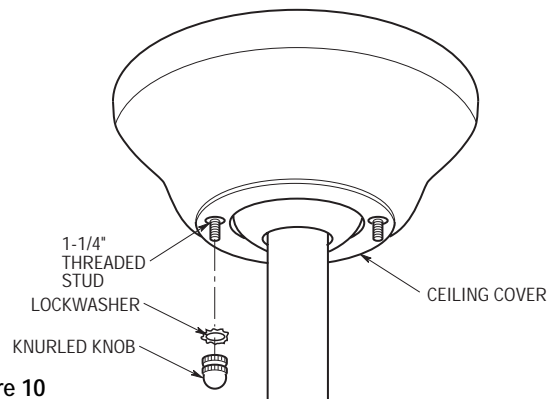

Figure 10
3. Screw the two 1-1/4" threaded studs (supplied) into the tapped holes in the hanger bracket (Figure 10).
4. Lift the ceiling cover up to the threaded studs and until studs protrude through the holes in the ceiling cover (Figure 10).
5. Secure the ceiling cover in place by sliding lockwashers (supplied) over the threaded studs and installing the two knurled knobs (supplied). (Figure 10.) Tighten the knurled knobs securely until the ceiling cover fits snugly against the ceiling and the hole in the ceiling cover is clear of the downrod. Your fan is now wired to be turned on and off from the fan